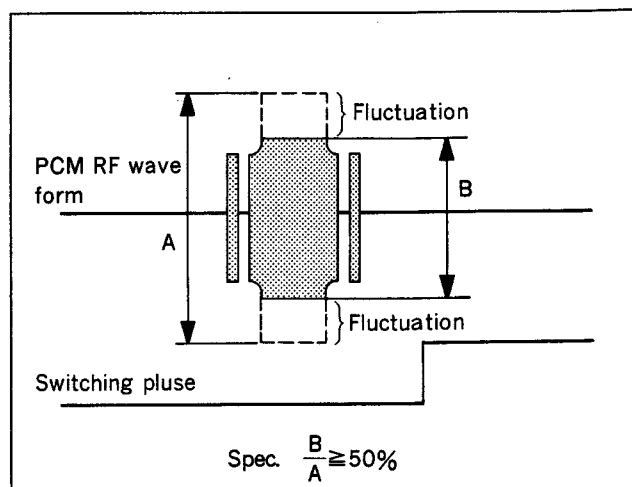

Fig. 6-9-5 Confirmation of PCM RF wave form
15. Confirm the CH1 wave form (PCM RF) of the oscilloscope. The RF level between 5 sec. thru. 10 sec. portion of the tape is more than 50% against the level between 0 sec. thru. 5 sec. portion of the tape. (See Fig. 6-9-5.)
17. Perform step 11 thru. step 15, and confirm the specification of the PCM wave form at the video inserted portion is met (specification is the same as Fig. 6-9-5).
- 18-1. Turn RV701 to 1/3 of the scale to clockwise direction. Perform step 10 thru. step 15, and confirm the specification is met (See Fig. 6-9-5).
Perform step 10 thru. step 15, and confirm the specification is met (see Fig. 6-9-5).
- 18-3. After the specification for MP tape is met, perform steps 16 and 17 using ME tape, and confirm the specifications is met (See Fig. 6-9-5).
- 18-4. Turn RV701 to 1/3 of the scale to counterclockwise direction. Perform steps 16 and 17, and confirm the specification is met (See Fig. 6-9-5).
Perform steps 16 and 17, and confirm the specification is met (See Fig. 6-9-5).
- 18-6. After the specification for ME tape is met, perform step 10 thru. step 15 using MP tape, and confirm the specification is met (See Fig. 6-9-5).
Confirm both specifications for ME and MP tapes are met (See Fig. 6-9-5).